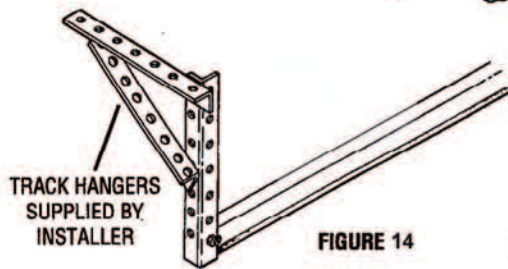

FIGURE 14
Step 15 Replace support rope or wire with metal angle hangers (supplied by installer- minimum 14ga.). Make sure track is square with opening. (Fig. 14). Make sure distance between tracks is the same at the bottom of the vertical, at the curve of horizontal and back of horizontal. Adjustment of track position may need to be made later, after the door is open to maintain proper spacing. CAUTION: Keep horizontal tracks close to the door so door will not fall out of track.